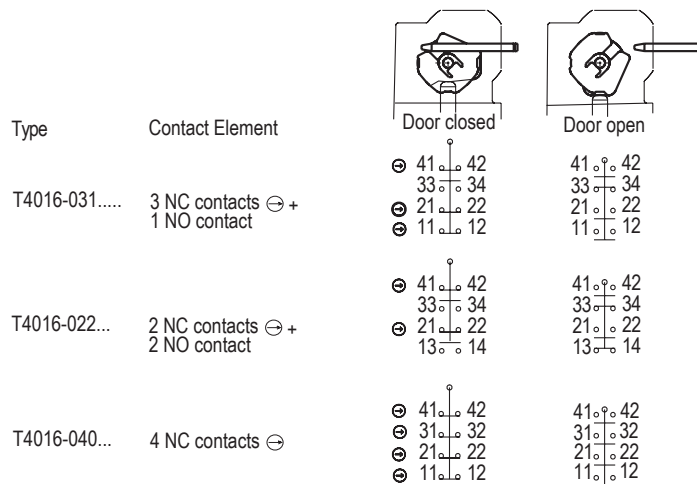

Figure 3: Switching elements and switching functions
- ▶ The maximum conductor cross-section is 1.5 mm². For pin assignment see Figure 3. Tighten the screws with a torque of 0.6 Nm.